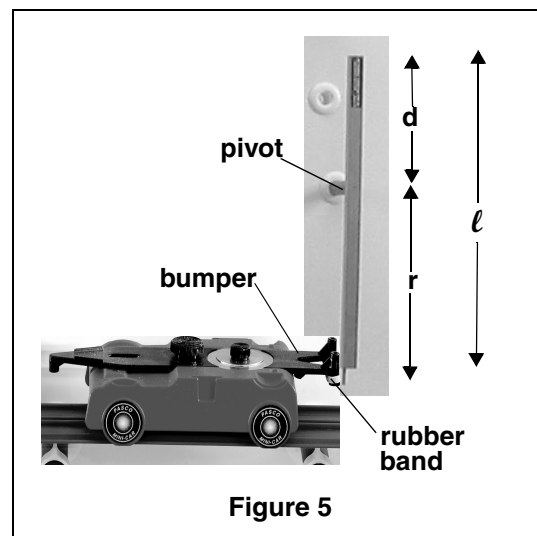

Figure 5
1. Find the pendulum's mass (M). (Note: This does **not** include the pivot support rod.)
3. Measure the distance (d) from the center of the pivot pin to the top end of the pendulum (the non-pin end) (See Figure 5).